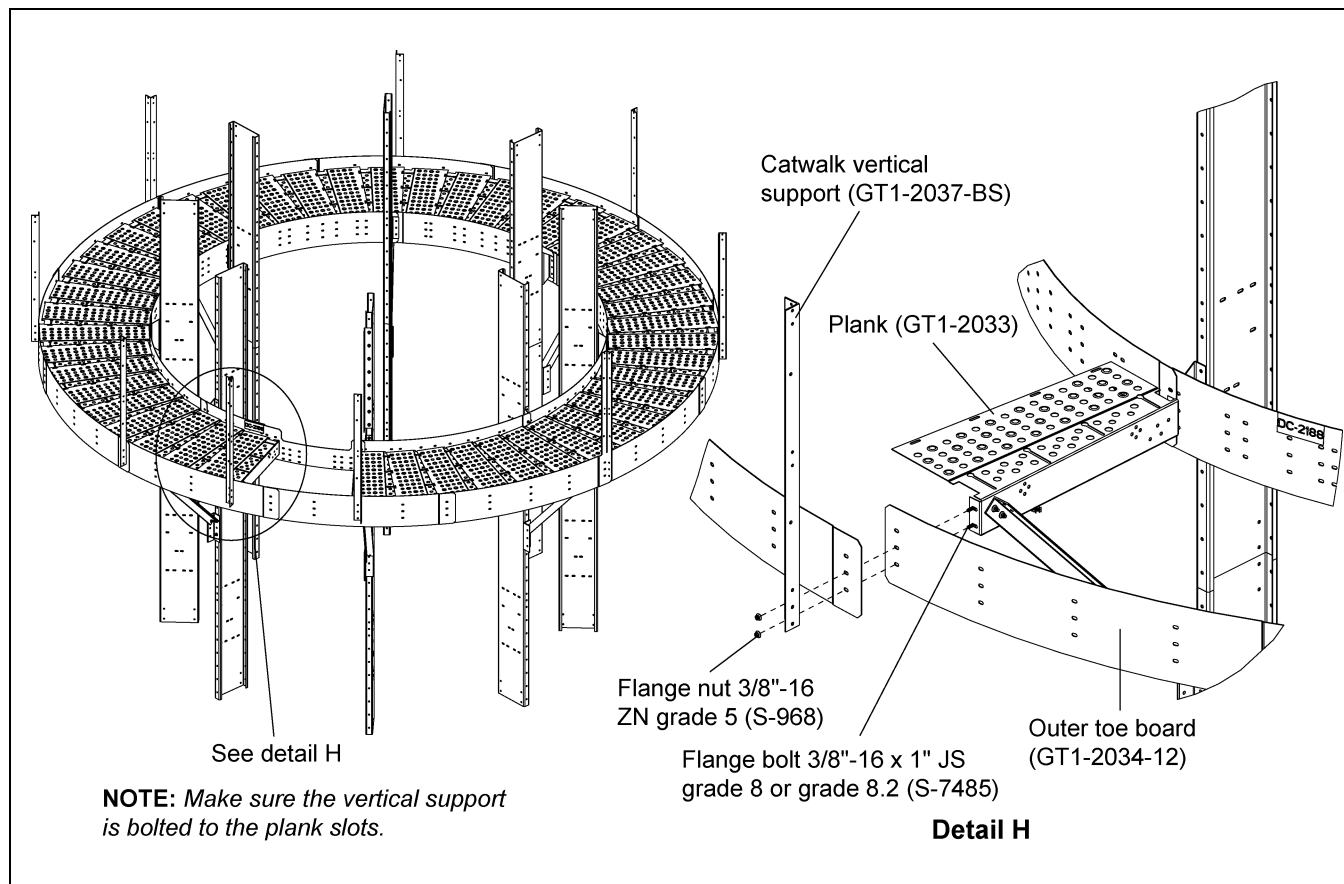
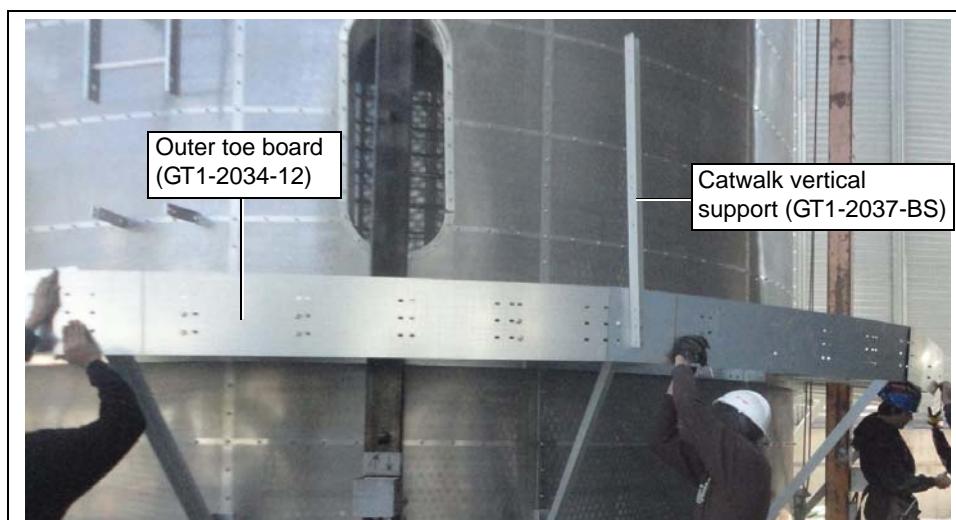

Figure 4R
Figure 4S
1. Install all the outer toe boards (GT1-2034-12) to the planks (GT1-2033). (See Figure 4R.)
2. When installing the outer toe board with planks, install the catwalk vertical support (GT1-2037-BS) simultaneously at proper locations using 3/8"-16 x 1" JS grade 8 or grade 8.2 bolts (S-7485) and 3/8"-16 ZN grade 5 nuts (S-968). (See Figure 4R and Figure 4S.)